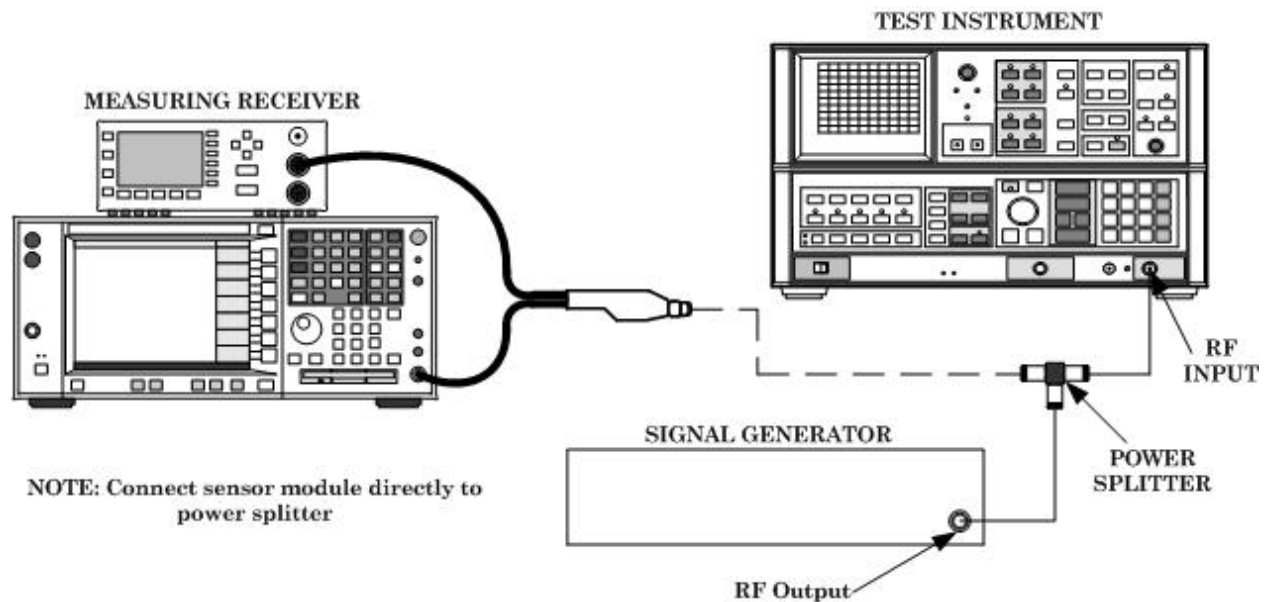

Figure 27. Frequency response connection 1.
(25) Disconnect TI **RF INPUT** from function/arbitrary generator **SIGNAL OUTPUT**.
(26) Connect measuring receiver sensor module to measuring receiver power reference output.
(27) Zero and calibrate the sensor module.
(28) Connect equipment as shown in fig. 27.